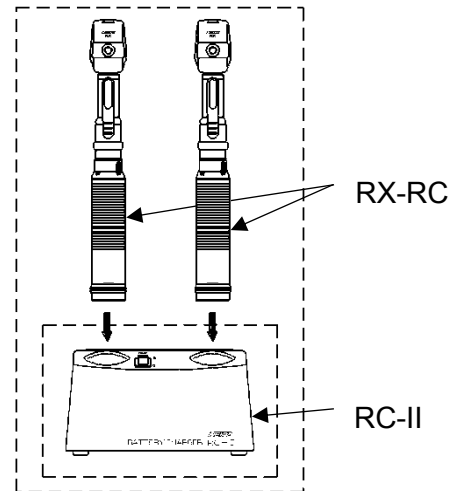

Fig. 3.1
- 2) Insert the Handle of the unlit RX-RC into the Charging Port of the RC-II (see Fig. 3.1)